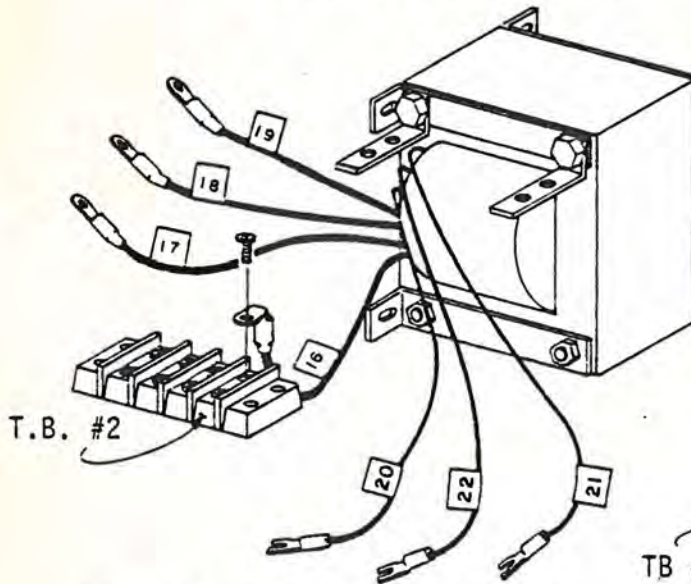

Figure 5-58 Wire and Terminal Attachment to Terminal Block
3. Prepare the ends of the remaining three secondary wires and attach a "B" size terminal to each one. Label the yellow wires 20 and 21. Label the yellow/green wire 22 (Figure 5-58).
4. Bend each "E" size terminal end at a right angle as shown in Figure 5-58. Bend the terminal at right angles away from the wire hole. (If the terminal is bent over the wire hole, it will not fit on the terminal block.) Attach the four terminals to the terminal block (TB2) as illustrated in Figure 5-58. Use the screws provided on the terminal block.